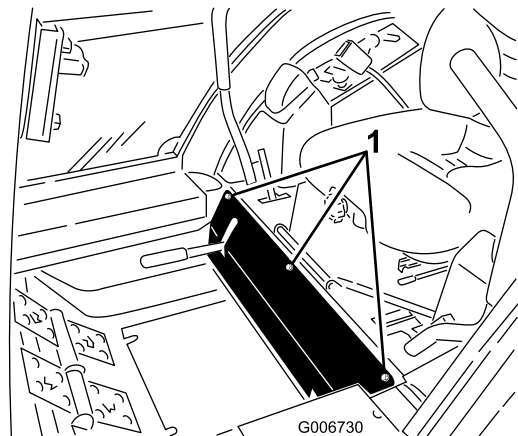

Figure 53
3. Remove the bolts securing the front panel and remove the panel (Figure 53).